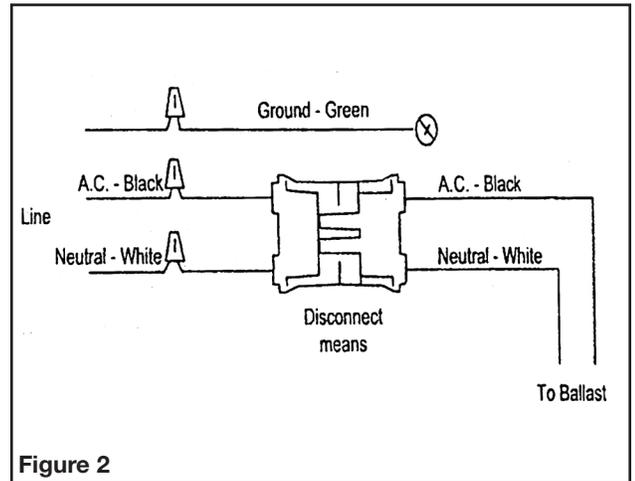

Figure 2
2. Fix the stainless steel hook brackets (5) to the ceiling at 36 inches center to center, using the stainless steel screws (6) provided. Make sure to use the proper anchors depending on the type of ceiling.
3. Attach the back housing (4) to the stainless steel hook brackets (5).
4. Run AC cable of rated voltage into cord grip connector (7) supplied or use sealed conduit and connectors with wire of rated voltage. Make sure you have enough wire length to reach the disconnect means (8) inside the unit.
5. Connect the AC line voltage wires to the disconnect means (8). Line to black wire and Neutral to the white wire. Ground goes to the green wire attached to the gear tray (3) as shown on figure 2. Input AC voltage is indicated on the unit.
6. Snap the gear tray (3) to the back housing (4). Remove protective film from the aluminized reflector.
7. Install lamp tubes (2) onto the gear tray (3).
8. Put the lens cover (1) on the back housing (4) and fasten the housing clips.